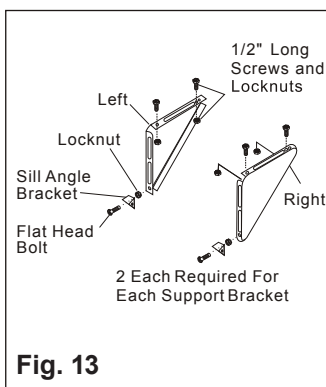

Fig. 13
2. Assemble sill angle bracket to support brackets at the marked position as shown in Figure 13. Hand tighten, but allow for any changes later.